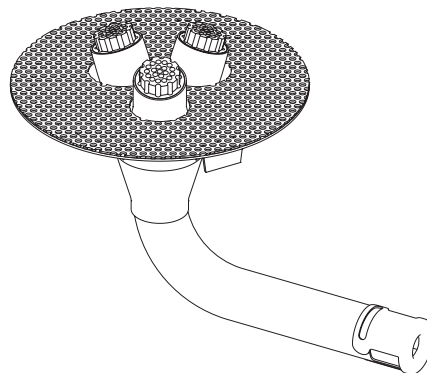

Figure 52
6. Fit the Center Burner and Center Burner Screen together as shown in **Figure 52.**